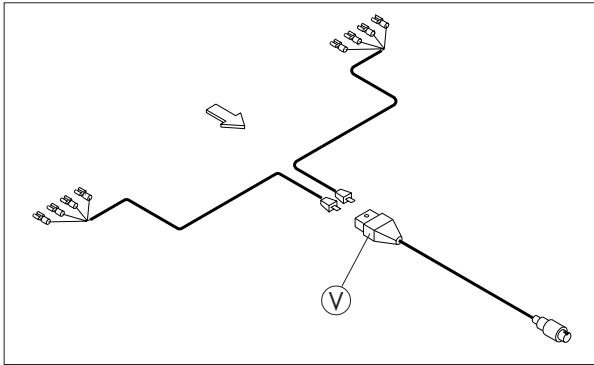

Fig. 3-18
The electric line for the lighting is passed through the cable routing on the rear frame member using the insertion aid and connected to plug (V) (fig. 3-18).